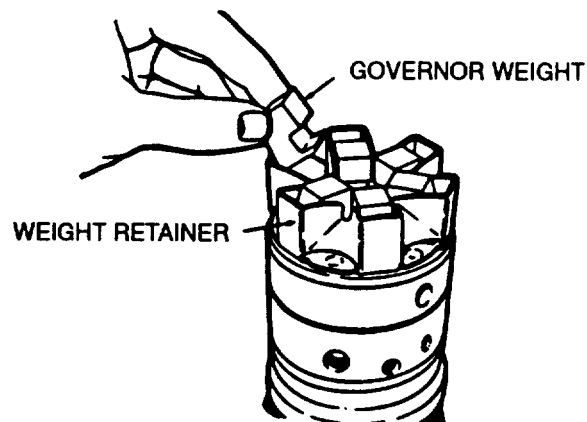

FIGURE 3-76. Installing Weights
- aj. Install six weights (18, FIGURE 3-52) into weight retainer (31), refer to FIGURE 3-76.